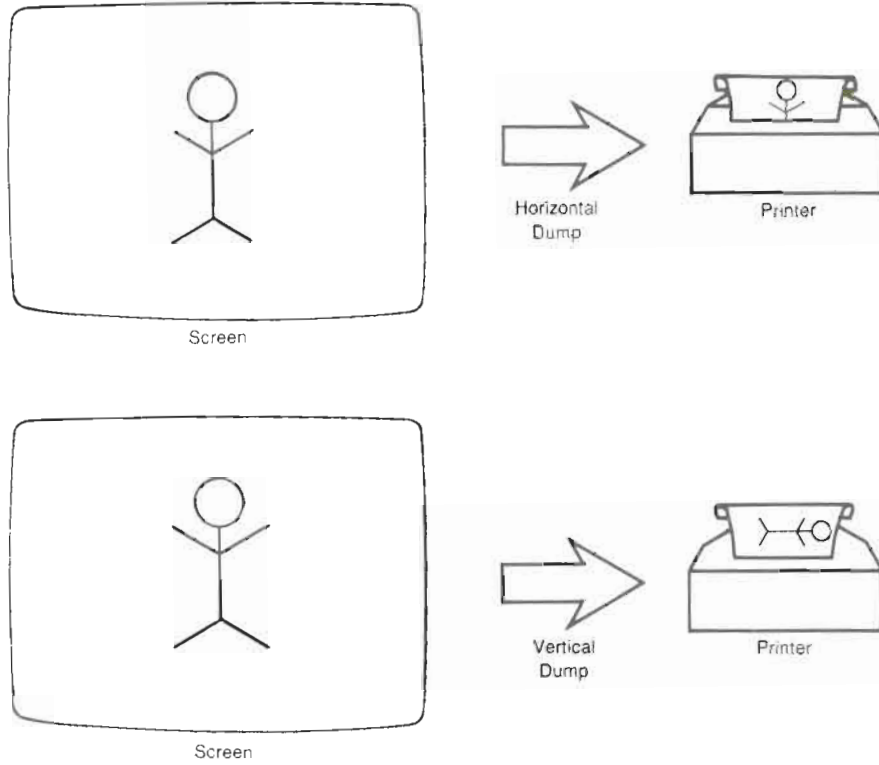

Figure 7-1. Raster Dump Orientations
- Picture Orientation (Horizontal/Vertical) (See figure 7-1.)